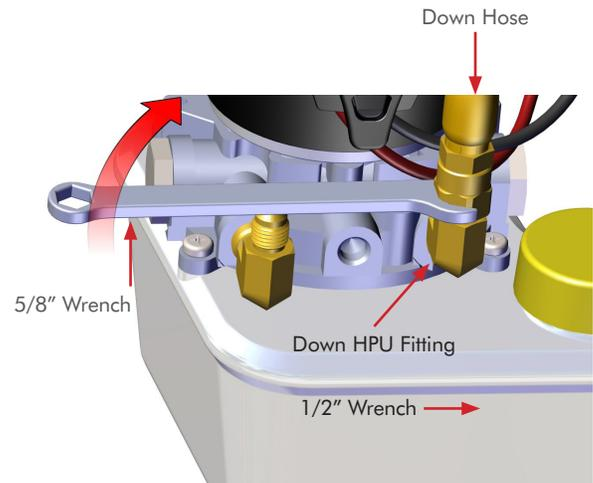

Figure 10
STEP 6 Finger tighten the **DOWN Hose** to the **DOWN HPU Fitting Base**. **FIG 10**
STEP 7 Turn the **DOWN Hose Fitting** clockwise a quarter turn with a **5/8" Wrench**. **FIG 10**